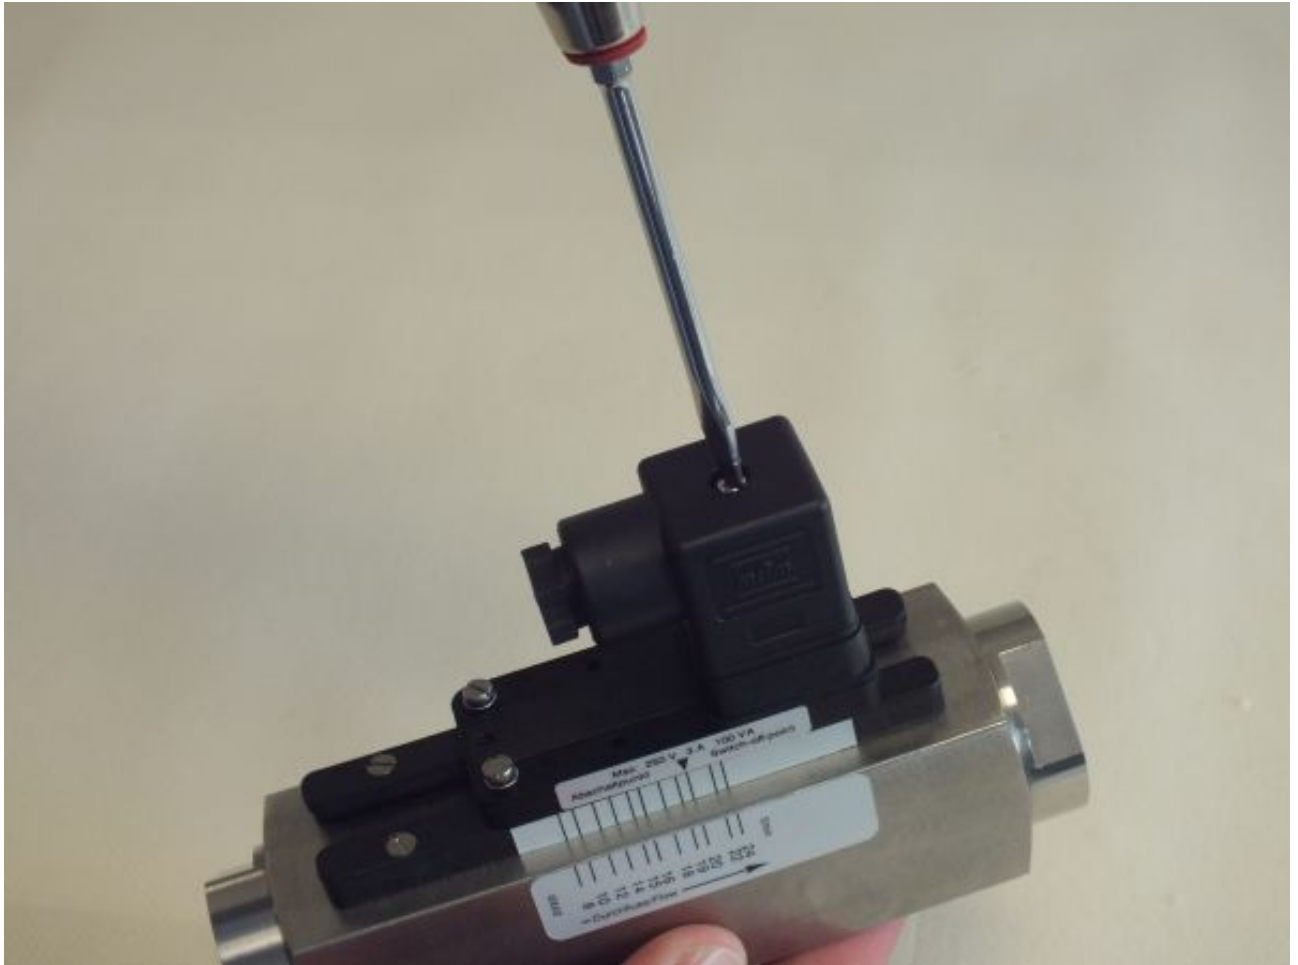

Fig. 78: Loosen female socket
- 1.** ➤ Loosen the fixing screw of the female socket (*Fig. 78*) with a flat-bladed screwdriver.